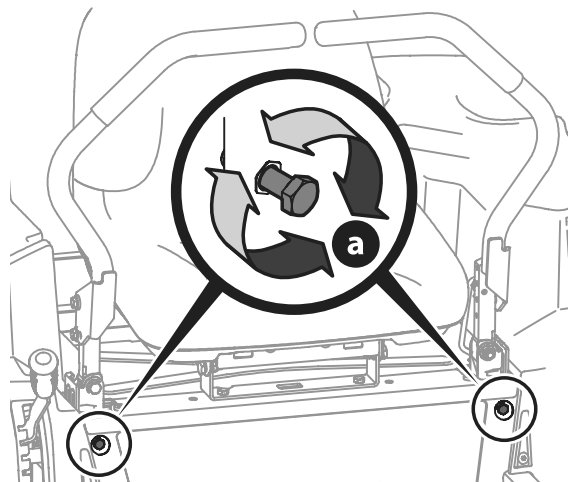

Figure 40
- Locate the lapbar drive control lever stop adjustment bolts (a) on the front of the seat frame (Figure 40).
- To decrease the forward speed, turn the lapbar drive control lever stop adjustment bolts (a) clockwise. To increase the forward speed, turn the lapbar drive control lever stop adjustment bolts (a) counter-clockwise. Turn the lapbar drive control lever stop adjustment bolts (a) in the necessary direction 1/4-turn at a time. After turning the lapbar drive control lever stop adjustment bolts (a), check the adjustment by driving the tractor (Figure 40).